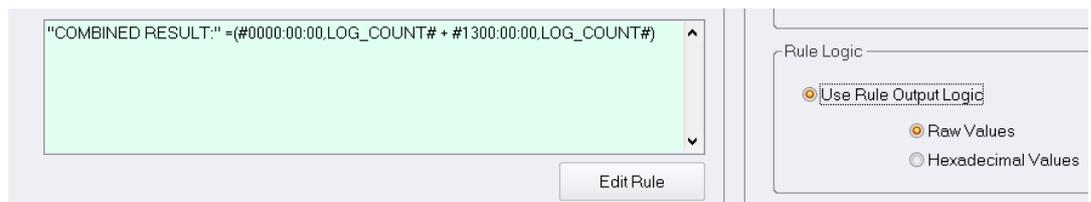

Figure 118 Edit the Rule
- Open the Log Logic window and add some text as shown in Figure 118